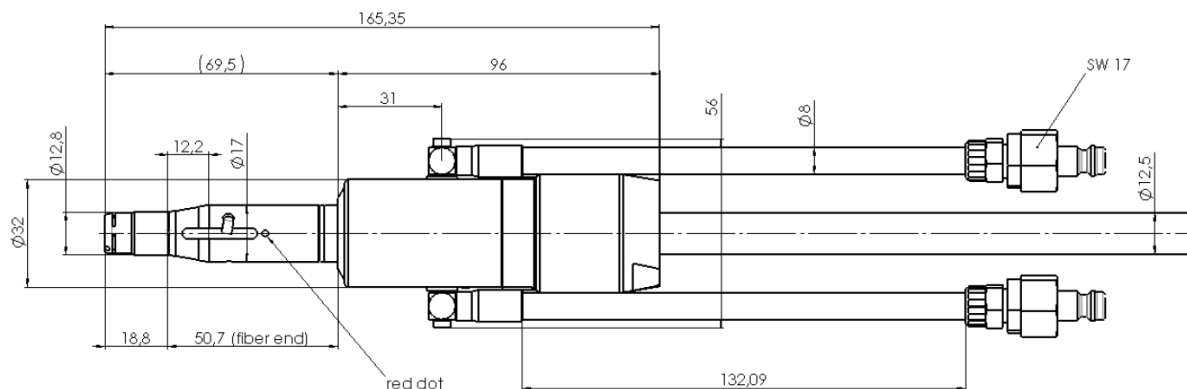

Figure 11.2.3: Outline Drawing – LLK–Q Beam Delivery System
(1) Refer to table 3.1.1 for fibre type definitions
(2) The XY positioning accuracy of the fibre with respect to the mechanical housing
(3) Optical fibre end position is defined in Figure 11.2.3